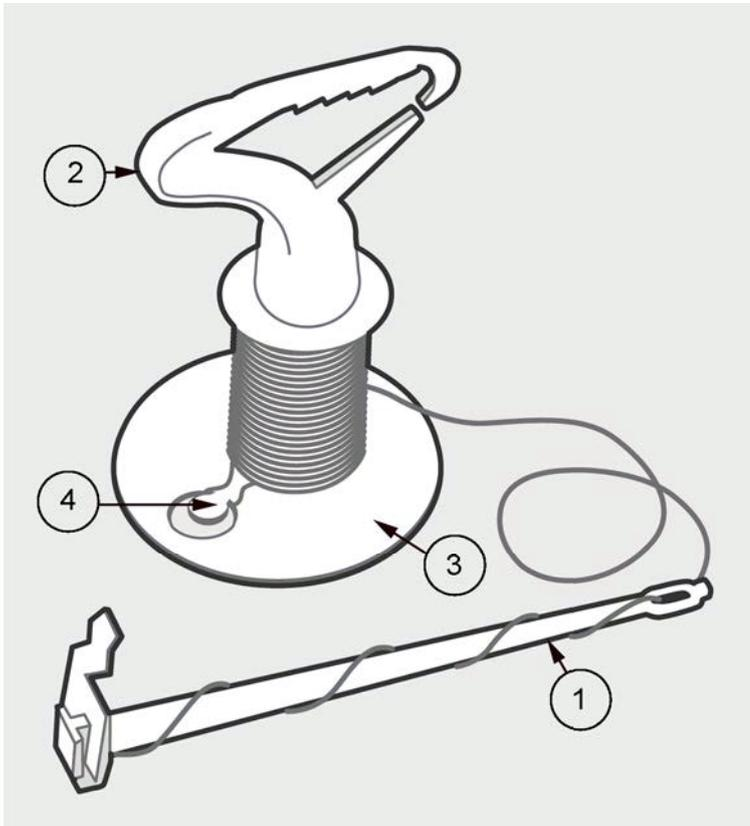

Figure 5 RS41 Unwinder Details
- ▶ 1. The unwinder stick (number 1 in Figure 5 \(page 23\)) is attached between two plastic clips in the unwinder hook (number 2). Detach the stick from between the plastic clips and pull it out from the unwinder bottom plate (3).
In the unwinder body, the unwinder string runs under a round plastic clip (number 4 in Figure 5 \(page 23\)) on the bottom plate. This keeps the string attached to the unwinder, and the radiosonde attached to the balloon.